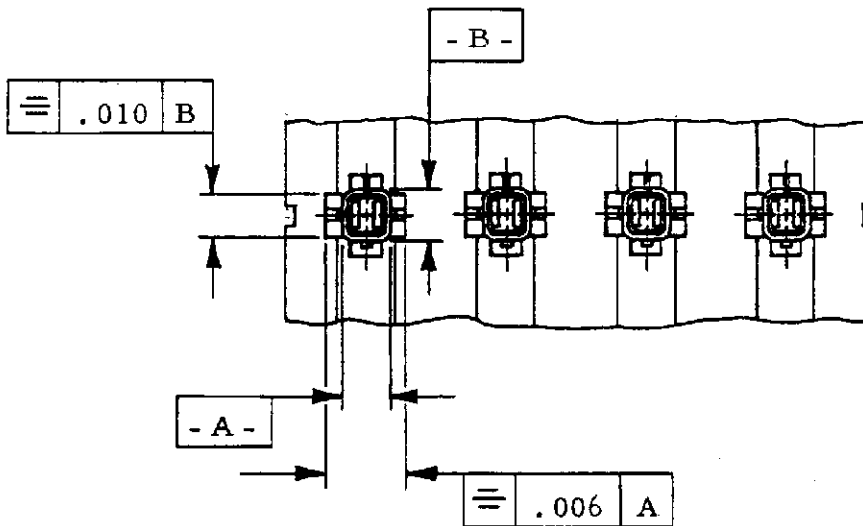

Figure 4
A. Contacts applied to the cable shall be in accordance with the requirements of Figure 4.